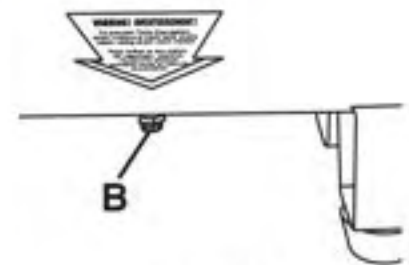

FIGURE 4
DRAIN VALVE (A) FIG.4
C. Turn the drain valve (B) Fig. 4 clockwise, opening it fully, to prevent air pressure build-up in the tank.
10. Drain water from air tank. Turn drain valve (B) Fig. 4, clockwise to open.
5. Drain water from air tank. Turn drain valve (B) Fig. 4, clockwise, to open.